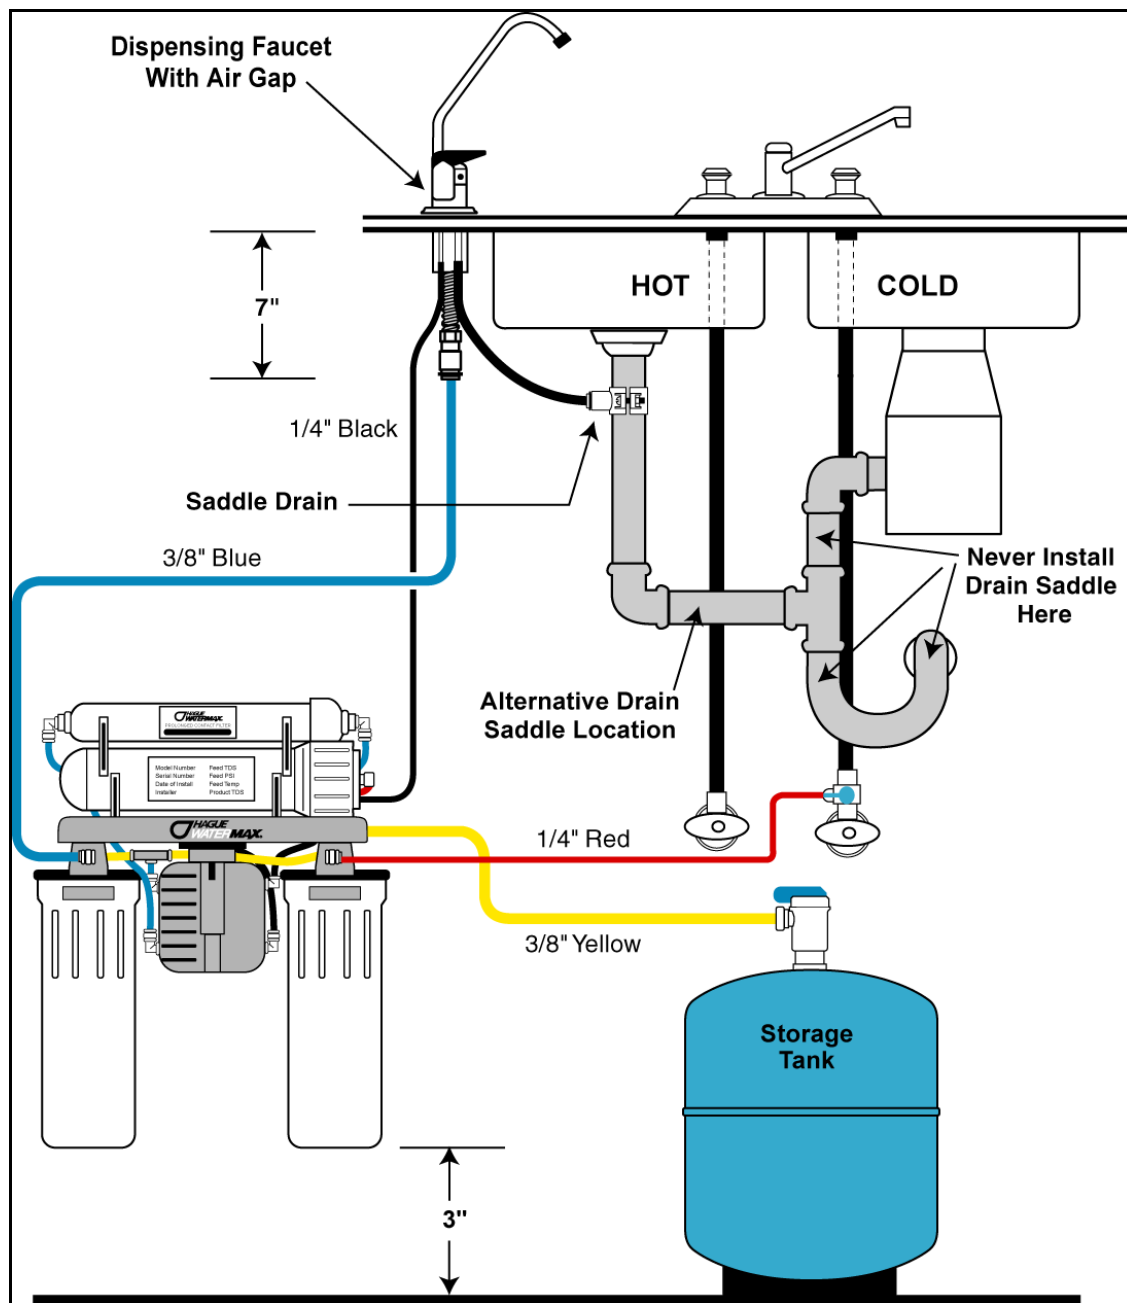

Figure 2: Installation Diagram
Study the overall installation diagram before proceeding, to familiarize yourself with the general layout of the appliance (See Figure 2).
- B. Using the diagram in Figure 2, from under the sink, feed the pre-connected 1/4-inch black tube and the pre-connected 3/8-inch blue tube from the RO assembly through the hole in the sink. Remove the red locking clip from the spigot adapter, slip the blue tube into the spigot adapter, and replace the red locking clip. Slip the 1/4-inch black tube onto the small hose barb on the base of the spigot.
Mount the RO Appliance on the cabinet wall using the screws supplied. Leave 3 inches (8 cm) below the bottom of the filter housing for clearance when changing filters (See Figure 2).